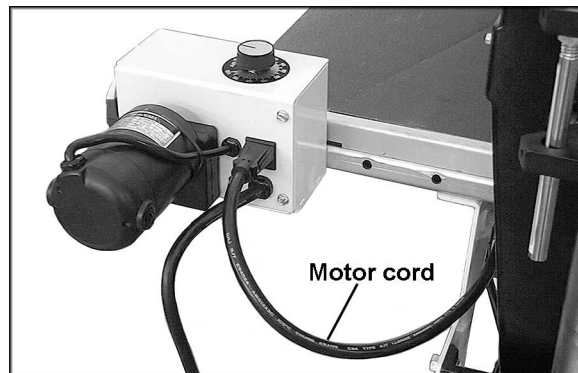

Figure 8
4. Plug the motor cord into the control box receptacle (Figure 8).